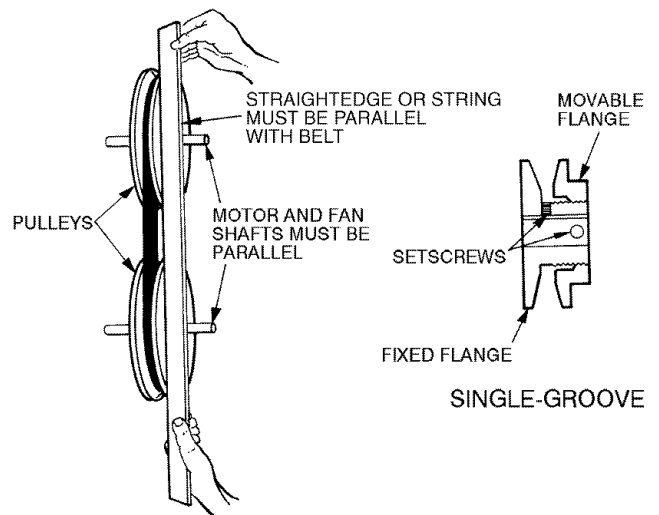

Fig. 40 — Indoor-Fan Pulley Adjustment
3. Loosen the movable pulley flange setscrew (see Fig. 40).
4. Verify that the pulleys remain correctly aligned (Fig. 40).